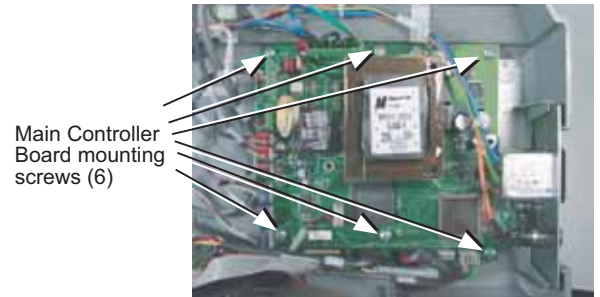

FIGURE 23
6. Be sure that wires are reconnected to the Power Switch properly upon replacement. (see figure 23)